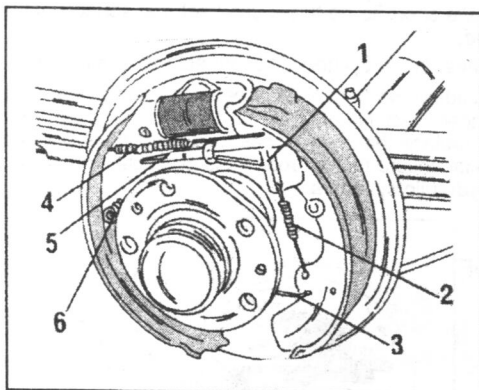

Fig. 8.10. — View of a fitted rear brake assembly.
- Referring to Fig. 8.10 remove the adjuster lever (1) and unhook the return spring (2). The upper return spring (4) and the lower spring (3) must be removed with a pair of pliers or use a screwdriver and carefully lift the spring hooks out of their anchorage. The thrust piece (5), i.e. the strut for the self-ad-